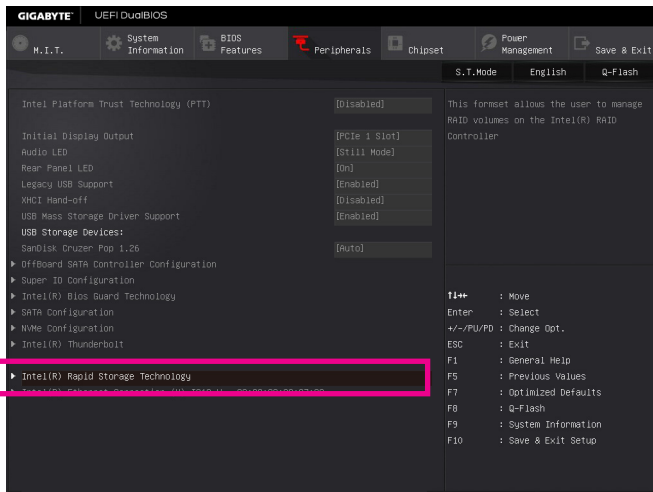

Figure 3
After the system reboot, enter BIOS Setup again. Then enter the **Peripherals**!Intel(R) Rapid Storage Technology sub-menu (Figure 3).